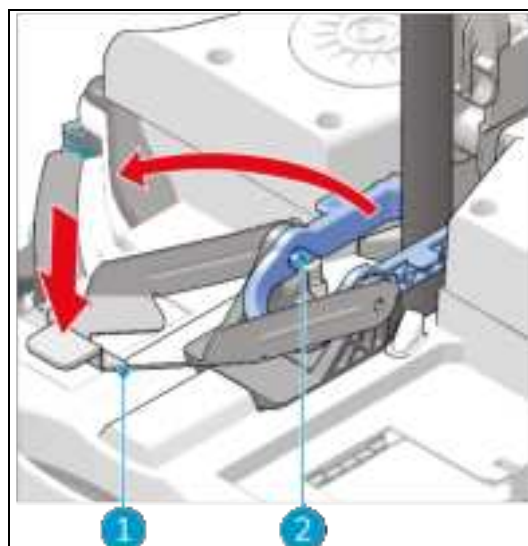

Figure 21
1. Push the bracket of the park support (Figure 21, pos 1) down to bring the drive support up (Figure 21, pos 2).